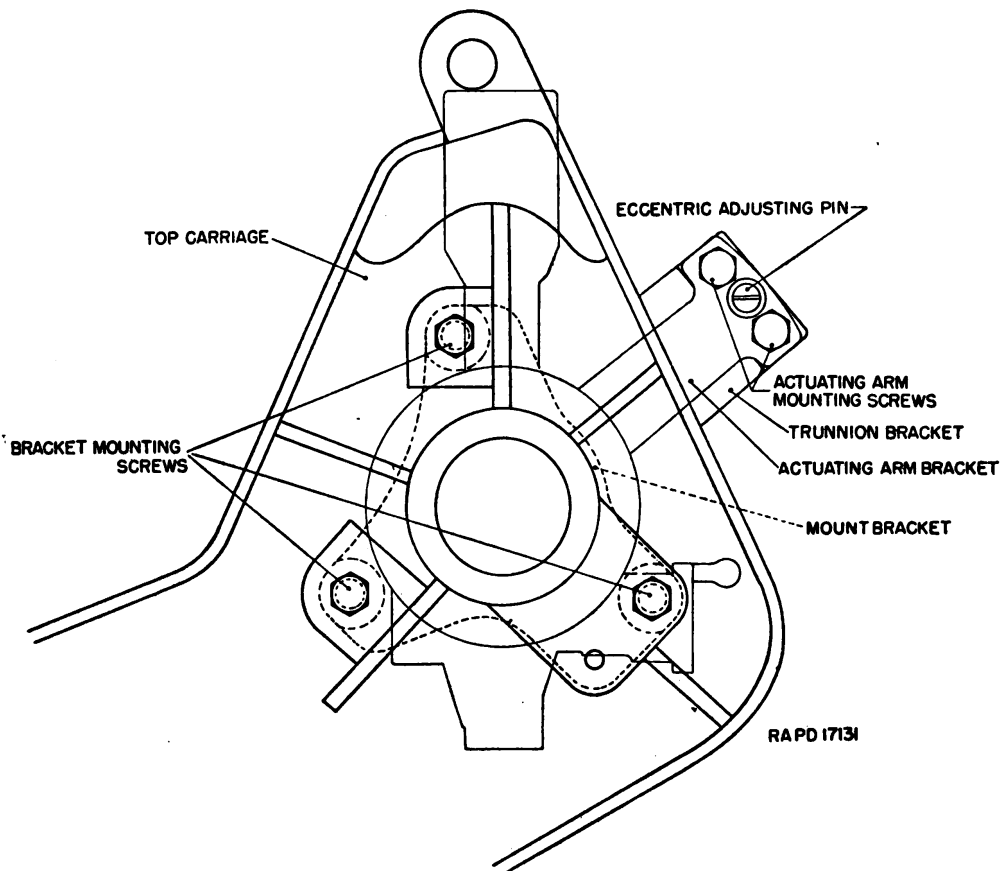

FIGURE 17.—Location of mounting screws in top carriage and trunnion bracket.
23. Disassembly and assembly.—*a. To remove telescope mount from gun or howitzer carriage (fig. 17).*—(1) Remove the actuating arm mounting screws which secure the actuating arm bracket to the trunnion bracket. Remove the nuts and washers from the two lower screws in the mount bracket.